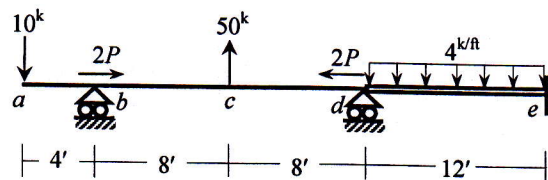

Fig. 10
13. Consider flexural deformations and geometric nonlinearity to calculate the value of P required to cause buckling of the beam $abcde$ loaded as shown in **Fig. 10** [Given: $2EI_{abcd} = EI_{de} = 40 \times 10^3 \text{ k-ft}^2$].
14. Use the Energy Method to calculate the plastic moment M_p needed to prevent the development of plastic hinge mechanism in the beam $abcde$ loaded as shown in **Fig. 10**